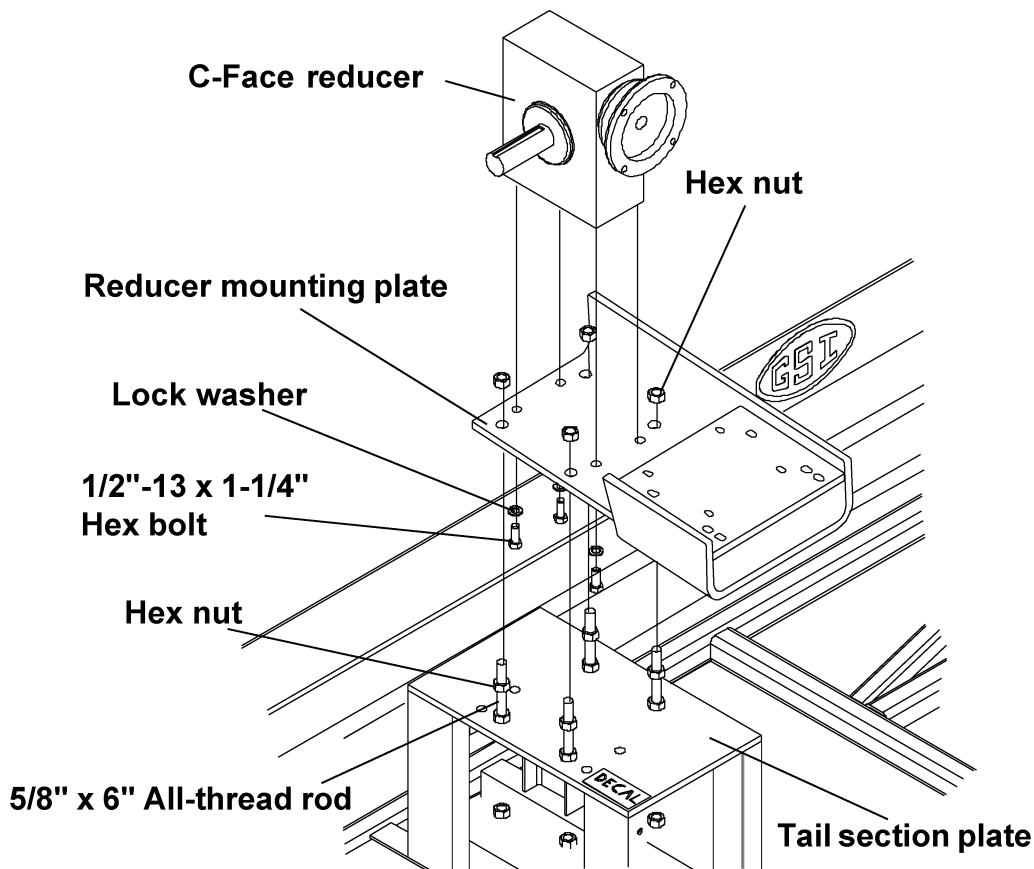

Figure 5U
- A. Attach the C-Face reducer to the mounting plate using four (4) 1/2"-13 x 1-1/4" hex bolts and lock washers. (See Figure 5U.)
- B. Fasten the reducer mounting plate to the tail section plate using four (4) 5/8"-11 x 6" all-thread rods and sixteen (16) hex nuts. Adjust the mounting plate as close as possible to the tail section plate.